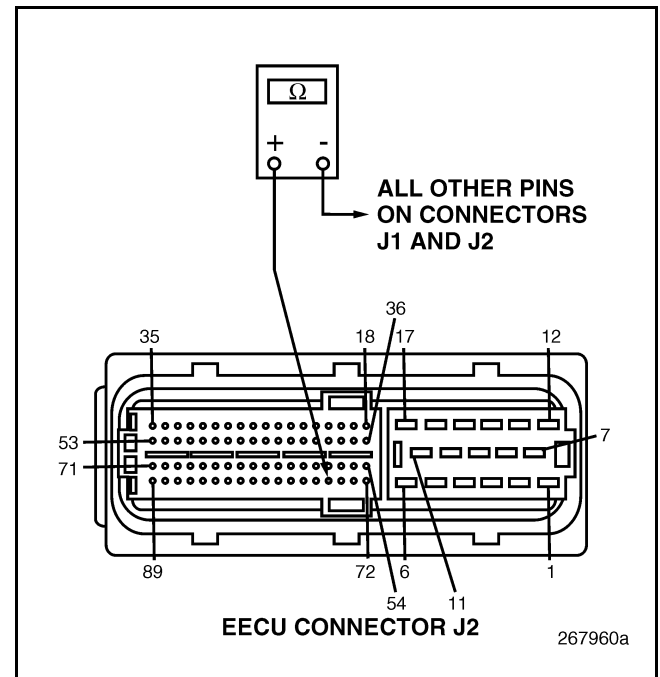

Figure 409
3. Disconnect the Engine Position (EP) Sensor connector.
4. Check for continuity between EECU connector J2 pin 75 and all other pins on EECU connectors J1 and J2 (see Figure 409).